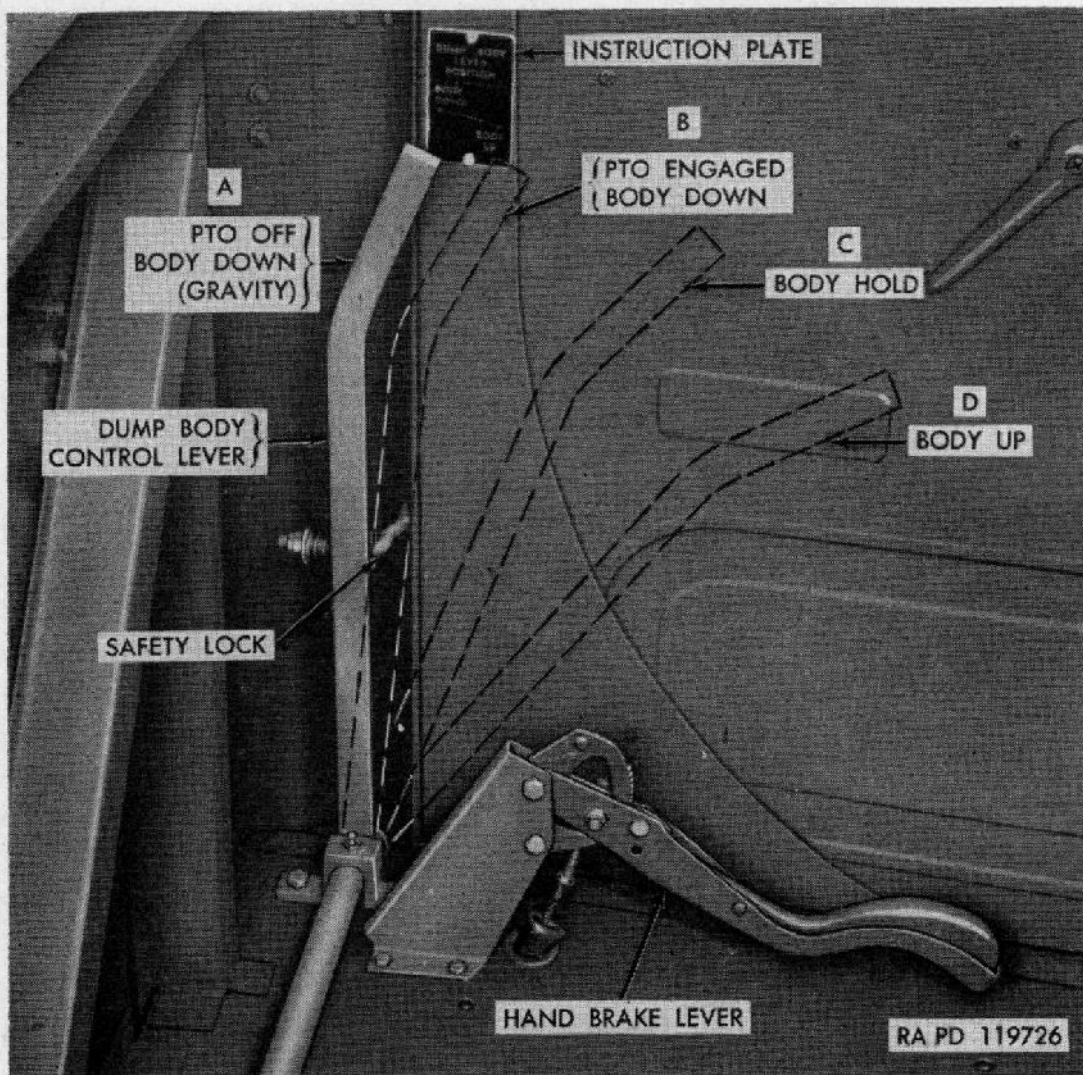

Figure 21. Dump body control lever—driver's seat removed.
a. DESCRIPTION. The all steel 2½-yard dump body (fig. 158) and hydraulic hoist assembly is mounted in a sub-frame which is mounted on truck chassis. Power for operation is obtained from a gear type pump (fig. 159) driven through a drive shaft from the power-take-off mounted on transmission (fig. 87). Control of body operation is by a lever (fig. 21) at the rear and to the left of driver's seat. The spare wheel (fig. 150) is carried in vertical position at rear of cab on
- (2) *Body control box.* A dump body control lever in the rear and at left of driver's seat (fig. 21) operates a shift control lever extending downward through cab floor which is connected by a control box rod to a control box (fig. 160) at front of hydraulic hoist control valve. This control box contains two cams (fig. 162), both of which are operated by the shift control lever connected to control lever in cab. The contour of these cams is such as to permit separate and predetermined positions of the cams in relation to position of control lever in cab. A lever mounted on extended end of forward cam shaft is connected to power-take-off shifting rod (fig. 161). A lever on rear cam shaft operates hoist control valve, controlling body movement.
- (3) *Operation.* The dump body control lever in cab has four definite positions as shown in figure 21. In first position (A), body is down and power-take-off is disengaged. As control lever is moved to next position (B), the forward arm in control box is engaged and shift linkage engages power-take-off. To raise body, control lever is moved forward, past position (C), to position (D). This movement engages rear cam in control box, lifts control valve piston, and raises